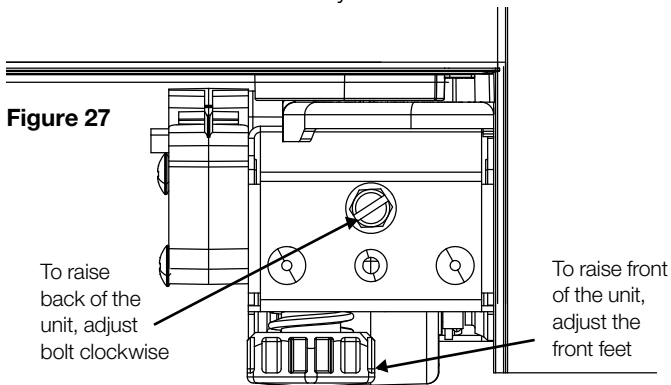

Figure 27
- e. Adjust the front and rear levelling feet (Fig. 27) if necessary to align the edges of the trims to the front face of the cabinetry.